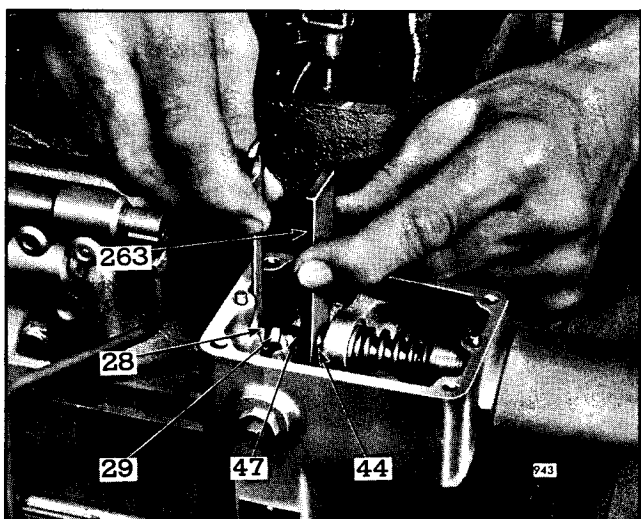

Fig. 1 - Adjusting Governor Gap-Tool J 5407
6. Using governor gap gage (263) Fig. 1, check the gap between the low speed spring cap (47) and the high speed spring plunger (44).
7. If required, loosen lock nut (29) and turn gap adjusting screw (28) until a slight drag is felt on gage.